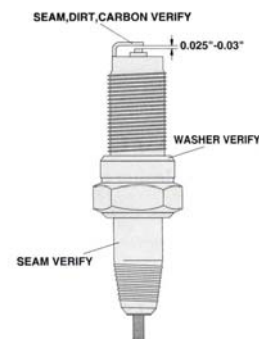

Figure 12
- Before installing spark plug coat threads lightly with graphite grease if possible, to ensure easy removal next time the spark plug needs inspection (see **Fig. 12**).